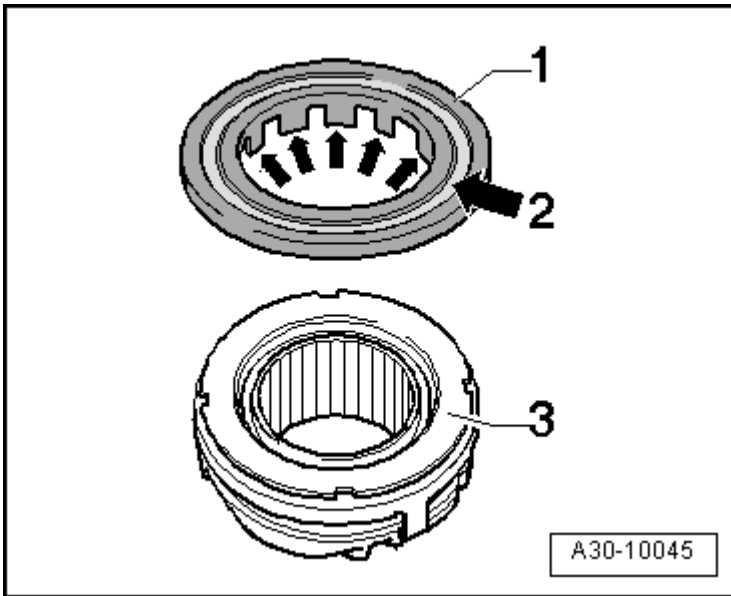

Fig. 16: Checking Release Bearing With Plastic Ring Attached
- Release bearing, checking, refer to Fig. 16